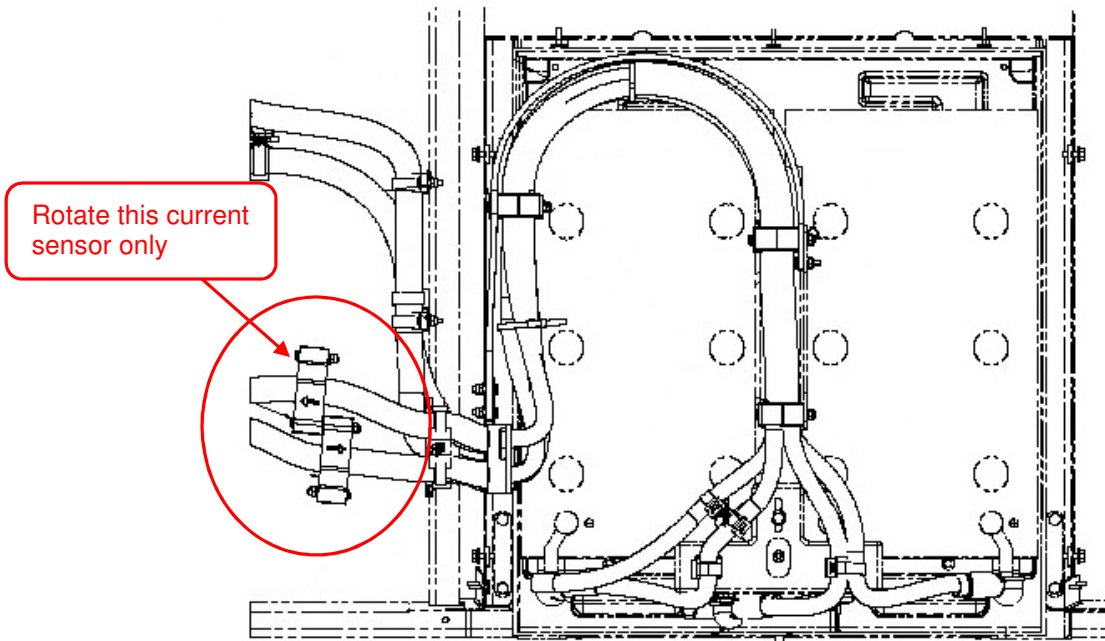

Figure 1: Location of Current Transducers
2. Locate the current transducers. Refer to Figure 1.